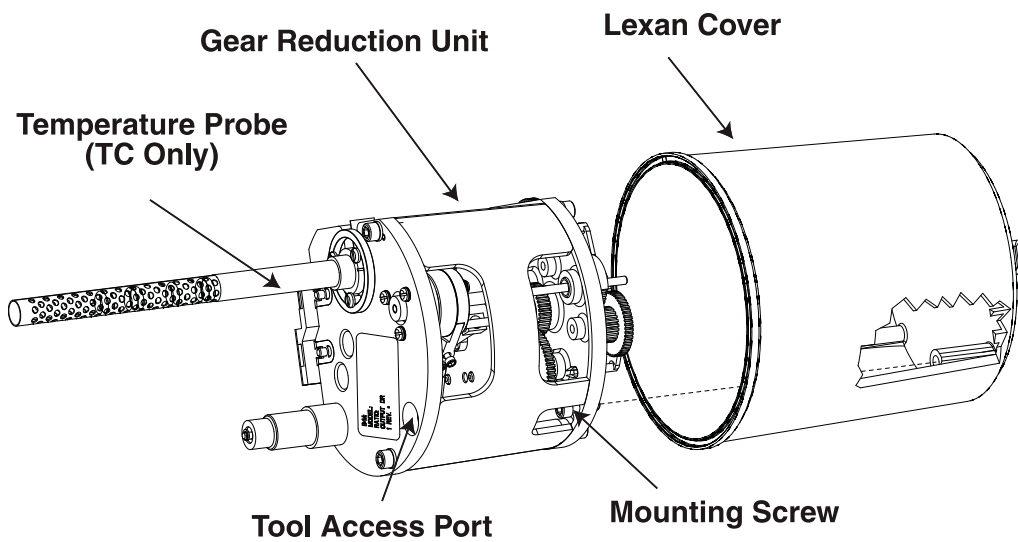

Figure 18 - Exploded view of Gear Reduction Assembly and Lexan® Cover.
Removing the Gear Reduction Assembly from the Lexan® Cover (Refer to Figure 18)
Use a 9/64" Allen wrench to remove the mounting screw holding the accessory unit in the Lexan® cover. The screw can be accessed through the Tool Access Port as shown in Figure 18.
Replacing the Gear Reduction Unit in Lexan Cover (Refer to Figure 18)
1. Remove CTR or TC Accessory from the meter. To do this, remove the four screws securing the slip flange, and remove the slip flange. Gently pull the accessory housing assembly off the meter. Remove the screws and slip ring. Then, remove the CTR or TC accessory from its housing by loosening the screw inside the housing. As shown in *Figure 18*.
1. Remove the CTR Accessory from the meter. To do this, remove the four screws securing the slip flange and remove the slip flange. Gently pull the accessory housing assembly off the meter. Remove the screws and slip flange. Then, remove the CTR accessory from its housing by loosening the screw inside the housing. See *Figure 18*.